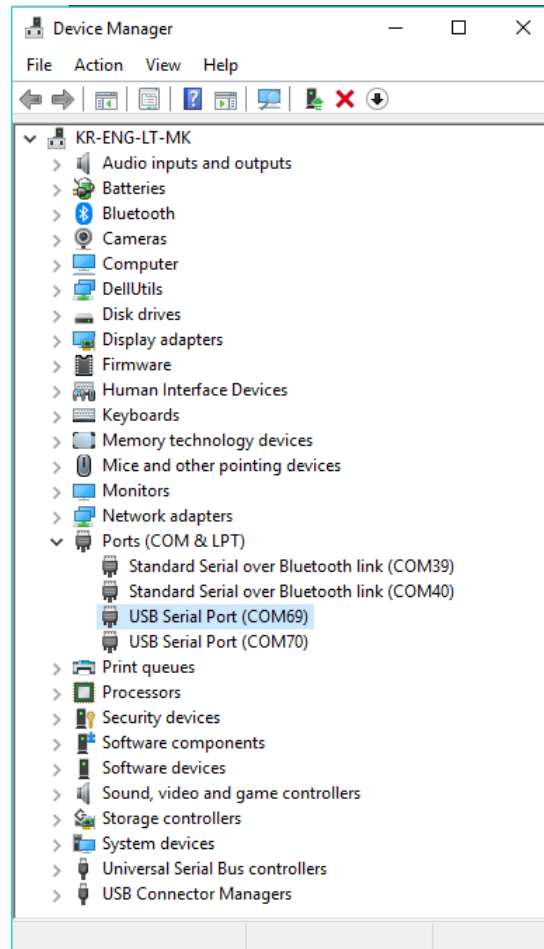

Figure 34. Check COM ports on device manager
There are two virtual COM ports created by the Windows driver. The first COM port (lower number, COM69 in Figure 34) provides a UART interface for debugging or firmware download between the PC and the DA161200/DA16600. The second (higher number, COM70 in Figure 34) is used for AT command.
2. Make sure that the PC discovered the two serial ports in Windows Device Manager as shown in Figure 34. The higher COM port number is connected to UART1.